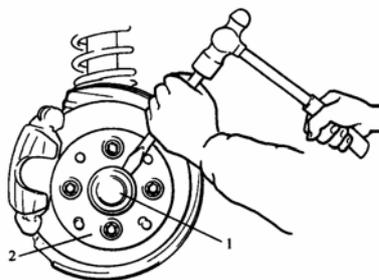

FIG.16-19 1.Cover dust; 2-Hub
(3) Remove spindle cap as shown in FIG.16-19. (By hammering lightly at 3 locations around it so as not to deform or cause damage to seating part of cap)